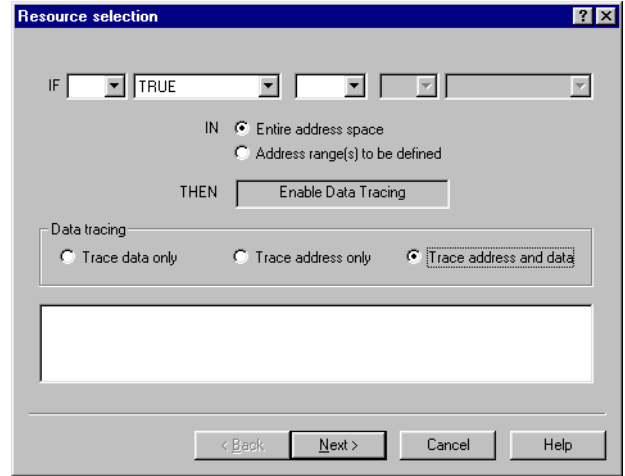

Figure 8-25 Resource selection for Enable Data Tracing
1. Double-click **Enable Data Tracing** in the Actions list to define a rule. The Enable Data Tracing Resource selection dialog box shown in Figure 8-25 on page 8-27 is displayed.